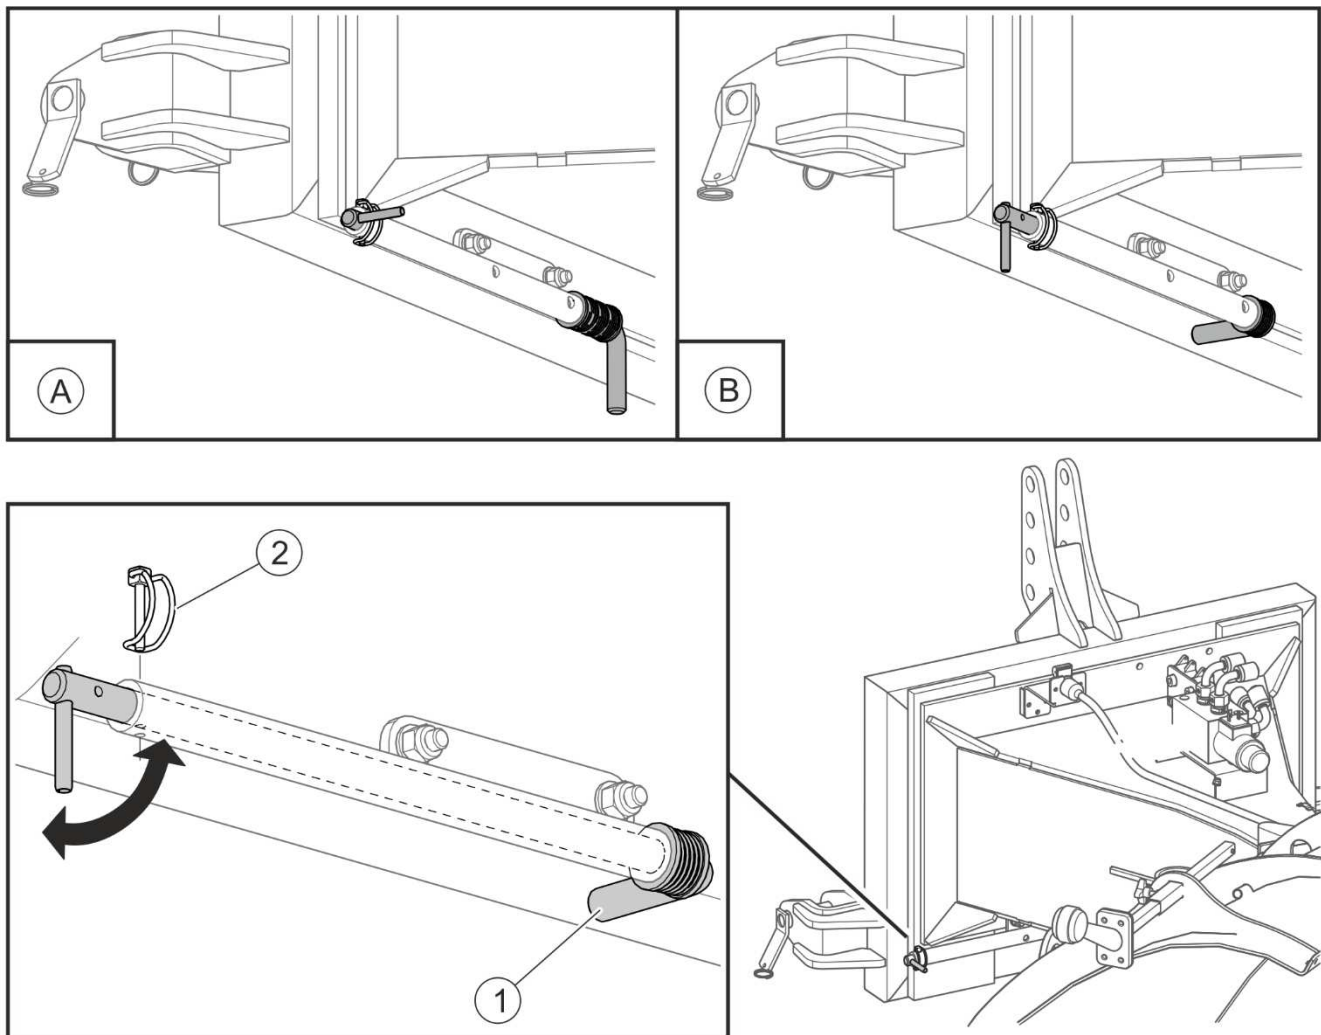

FIGURE 4.12 Linkage system interlock protecting against dropping
- protect the snow plough's linkage against dropping (FIGURE 4.12) - *if necessary*,
- quick couplers of hydraulic conduits (1) must be protected against contamination and inserted in special sockets (2) on the snow plough frame,
In order to facilitate later hitching the snow plough to the carrying vehicle equipped with the front three point linkage, the interlock (FIGURE 4.12) protecting the snow plough's linkage against dropping can be used.
In order to facilitate hitching the machine suspended on the carrying vehicle's front three point linkage, the linkage interlock can be set to position (B) before lowering the snow plough to the ground. During the snow plough operation, the interlock (FIGURE 4.12) should be set to position (A).